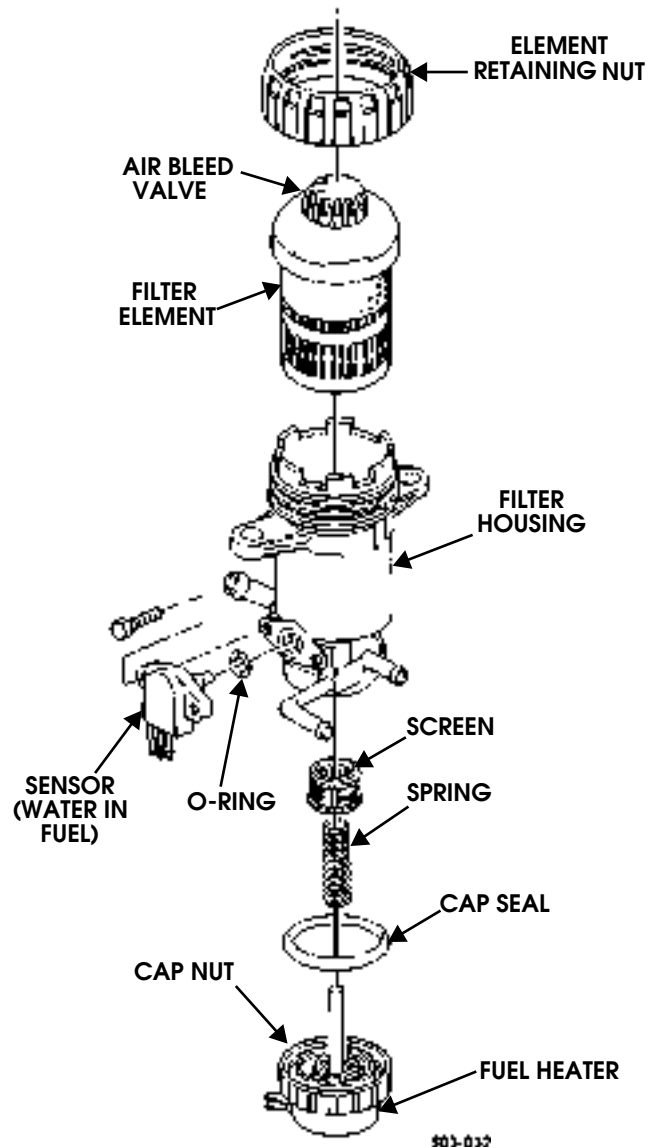

Figure 3-41: Fuel Filter Components
1. Loosen fuel filter air bleed valve one-half turn (Figure 3-41).